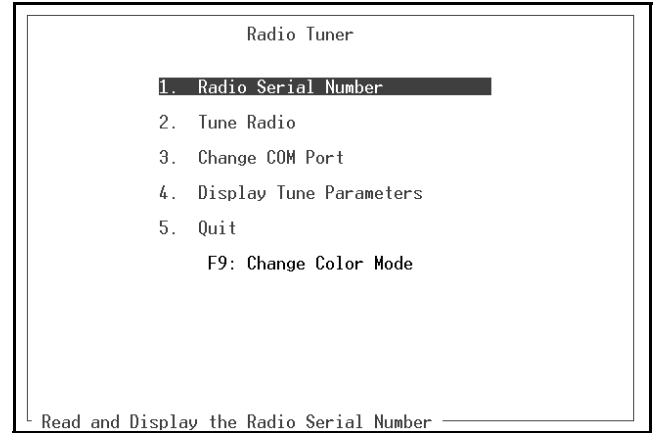
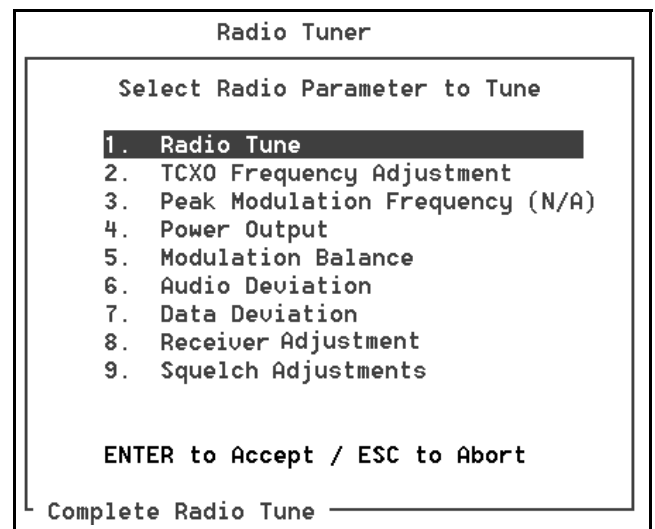

Figure 7-2 Tune Program Opening Screen
Figure 7-3 Radio Tuner Menu
To start the program from DOS, make the directory of the program the current directory and type PLATTUNE. From Windows 95, double click the shortcut icon for the program if one has been created. The opening screen is shown in Figure 7-2. Use the arrow keys or the indicated number keys to highlight the desired function and then select it by pressing the
**2. Tune Radio** - Displays the Radio Tuner menu shown in Figure 7-3. Refer to Section 7.2.4 for more information on the functions in this menu.
When transceiver alignment is to be performed, “Tune Radio” is selected in the Figure 7-2 screen as described in the preceding section. The screen in Figure 7-3 is then displayed.
2. The opening screen shown in Figure 7-2 is then displayed. From this screen select “Tune Radio” to automatically go from one adjustment to the next, or select the adjustments one at a time.